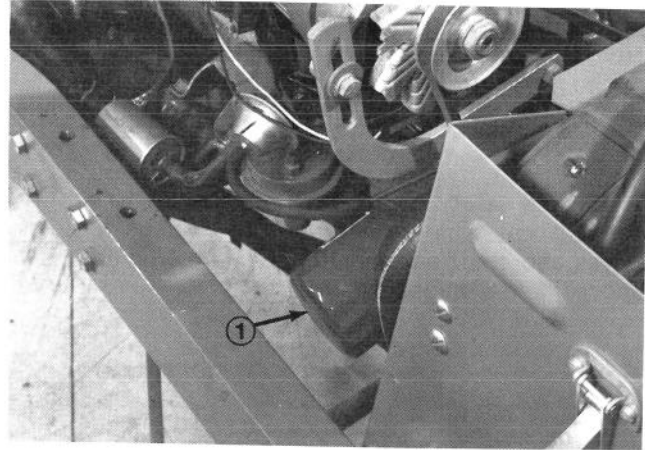

Figure 37
3. Add oil to the engine. Five quarts (4.73 L) with filter (Fig. 37).